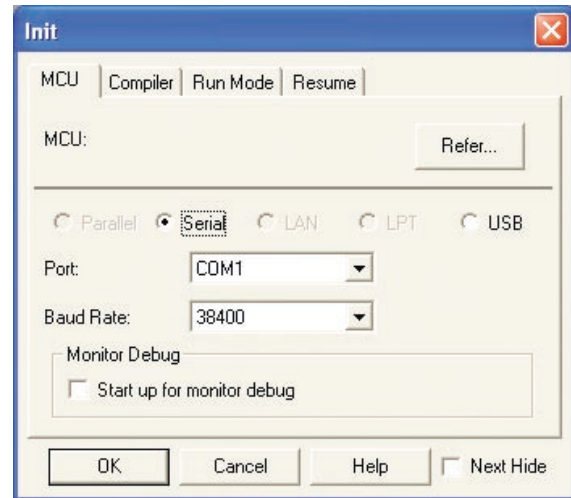

Figure 5. KD30 Init Window
- b) Click on the debugger button  to launch the KD30 debugger from HEW. The “Init” dialog box should open (Figure 5).